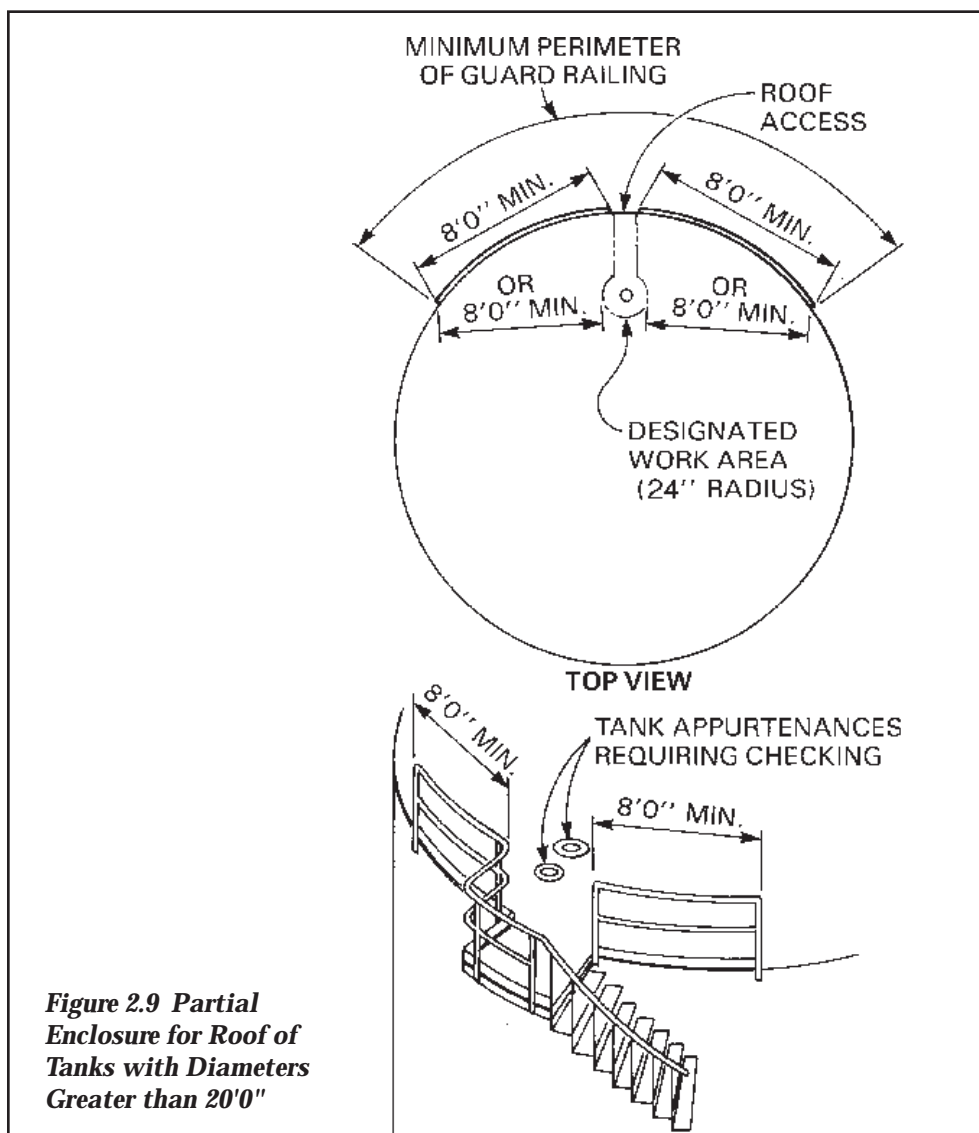

Figure 2.9 Partial Enclosure for Roof of Tanks with Diameters Greater than 20'0"
2. Tanks with diameters greater than 20 feet require a standard guardrail including a toeboard along the roof perimeter extending 8 feet from the designated work area or 8 feet beyond the roof platform entrance (*Figure 2.9*).